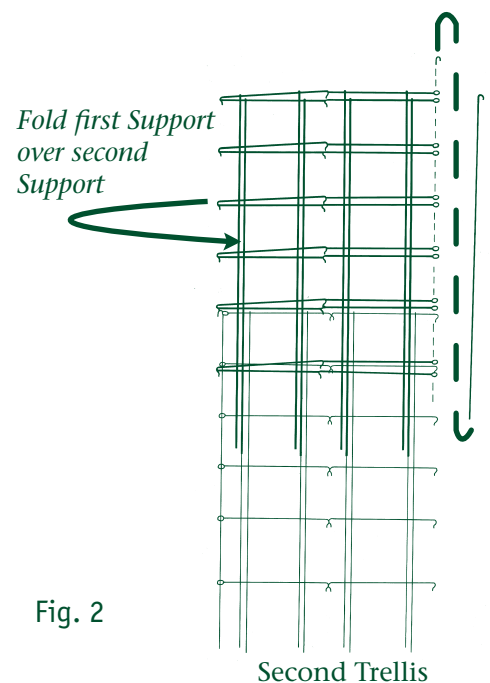

Fig. 2
5. Lift the left side of the first Support and fold it at the middle hinge, over the second Support to join the loops. Starting from the top, slide the Connecting Rod through each loop of the Support. As you pass the Rod through the loops, you must also pass the Rod inside the hinge bars of the second Support. You may need to use a bit of manual force to maneuver the Rod through the loops and between the hinge bars. The manual force required for this part of the assembly will ensure enough tension to keep the Bean Tower stable (Figure 2).